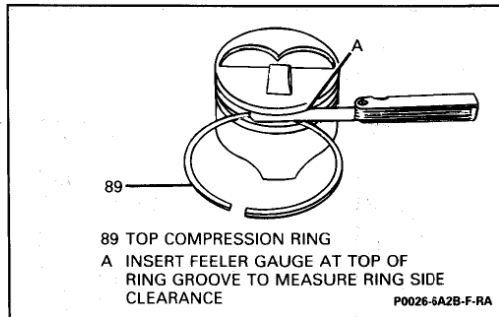

Figure 36 Measuring Piston Ring Side Clearance
- Roll the piston ring around the groove in which it is to be installed and measure the side clearance (Figure 36). If the ring is too thick, try another ring. Refer to "Engine Specifications" in this section for specifications.